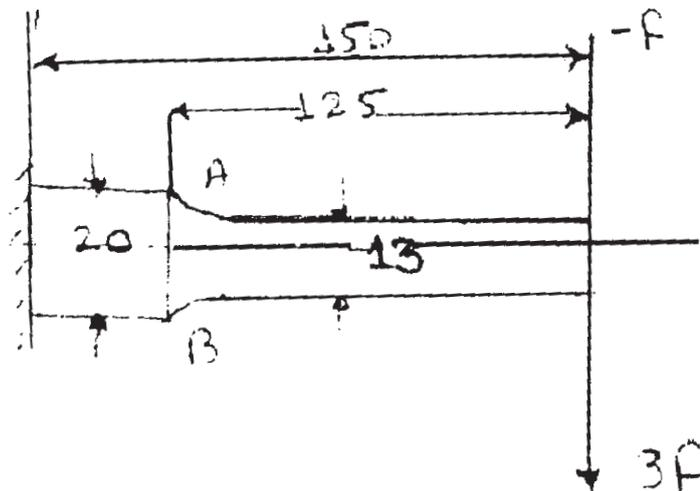

Fig. 3
b) A cantilever beam made of cold drawn carbon steel of circular crosssection as shown in Fig.3, is subjected to a load which varies from $-f$ to $3f$. Determine the maximum load that this member can withstand for an indefinite life using a factor of safety as 2. The theoretical stress concentration factor is 1.42 and notch sensitivity is 0.9. Assume the following values : [10]